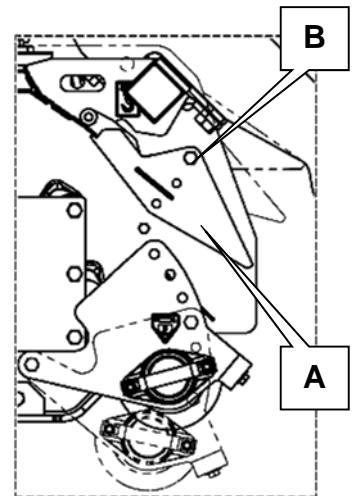

Figure 6.8
**6.1.6.2** The adjustable rear guard (see Figure 6.8 A) is fastened at each end of the cowl by a bolt (see Figure 6.8 B).